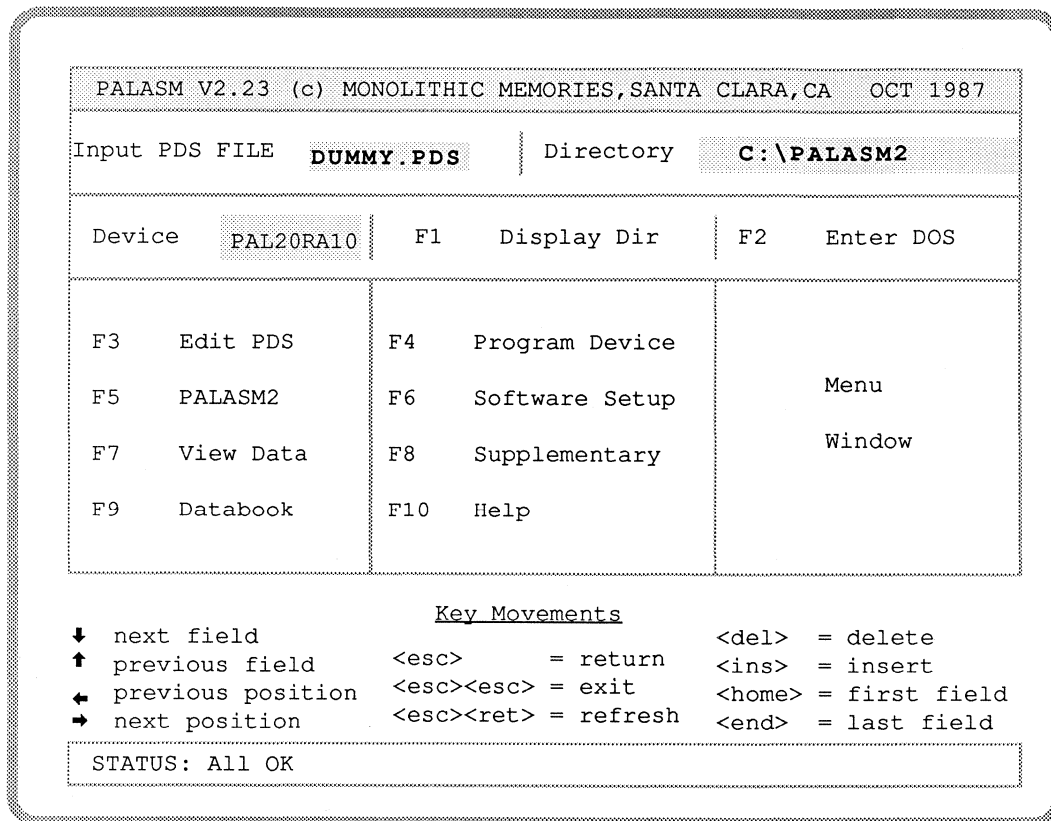

Figure 4-4
8. To display the main menu, enter <return> again. Figure 4-4 shows the main menu.